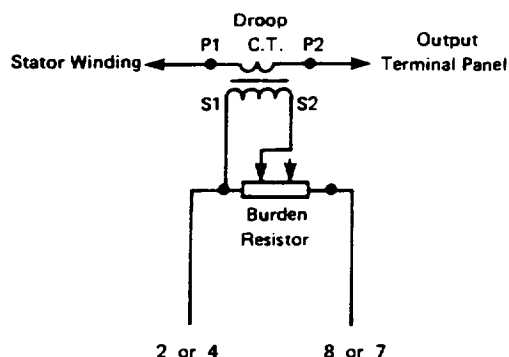
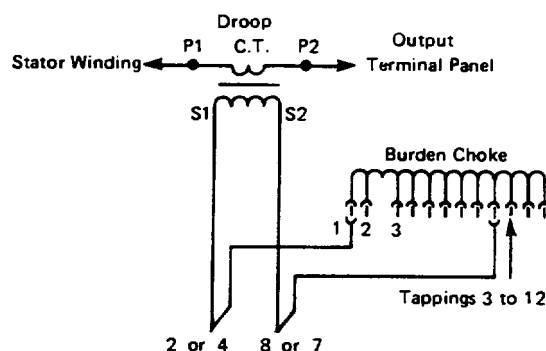

Fig. 16. Auxiliary Terminals (See Note 2)
Fig. 17. Auxiliary Terminals (See Note 2)
This is the most widely used and simple of paralleling systems and comprises a current transformer (C.T.) and burden resistor (see Fig. 16), or a current transformer (C.T.) and burden choke (see Fig. 17).
1. Depending on machine type, one or more main stator cables are connected to each output terminal, insert droop C.T. in one cable only. See Fig. 17 for C.T. position and wiring diagram.